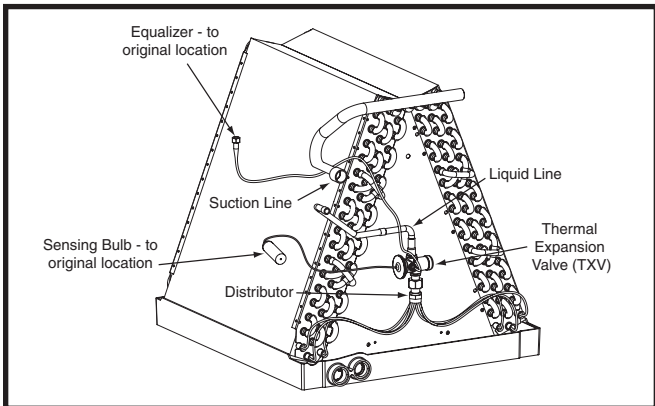

Figure 2. C5 Coil With TXV Installed
3. Install the thermal expansion valve between the distributor and the 3/8 liquid line (Figure 2, page 3).